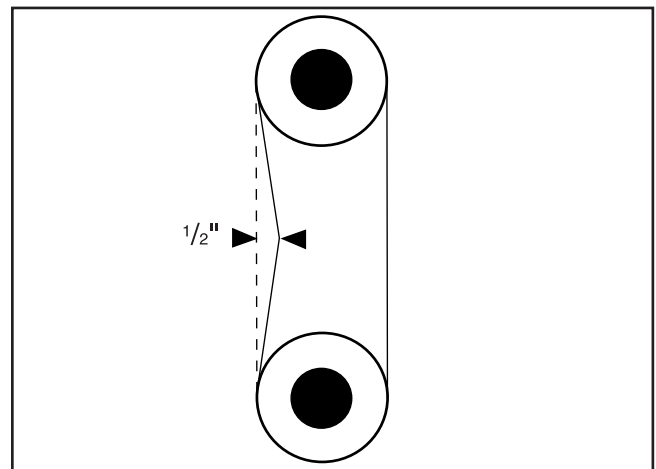

Figure 41.
2. Note the amount of deflection. Deflection should be approximately $\frac{1}{2}$ ", similar to **Figure 41**.